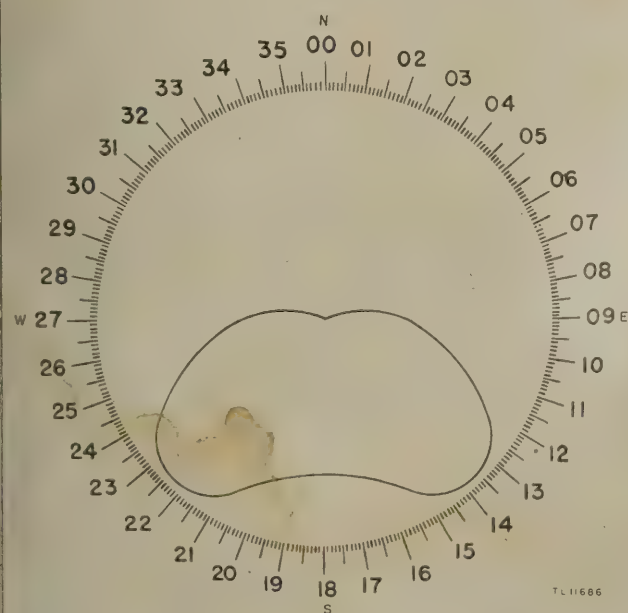
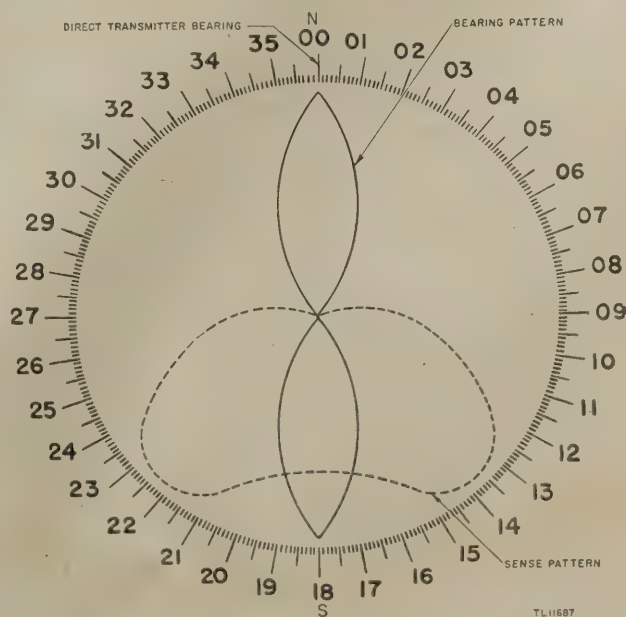

Figure 140. Use of sense coils shifts indicator pattern to correct position.
Figure 141. Bearing pattern and corresponding sense pattern for signal from north.
The sense coils are at right angles to the D/F coils and, therefore, produce a magnetic field which is at right angles to that present when the D/F coils are connected to the deflection amplifier; thus, the pattern is shifted  $90^\circ$  on the scope screen (fig. 140). If the STAND-BY - D.F. - SENSE switch is alternately placed in the D.F. and SENSE positions, the bearing and sense patterns will appear alternately on the screen (fig. 141).
c. INTERPRETATION OF SENSE PATTERN. The radio set is so designed that the various voltages combine to produce a sense pattern in the semi-circle *opposite* to that in which the correct azimuth reading lies. The sense pattern can be considered as the tail of an arrow which is pointing to the correct azimuth reading,  $0^\circ$  in figure 141.